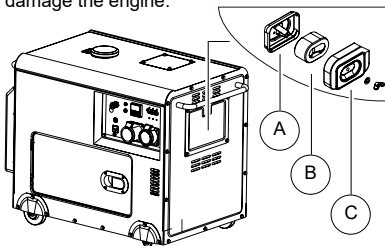

Figure 2-16. Air filter check
1. See **Figure 2-16 Air Filter check**, Open the cover of generators, you will see the air filter assembly.
2. Loosen the butterfly nut of air filter, take the air filter cover (C) off and take the filter element (B) out.
3. After replacing the air filter element, fix the air filter cover (C) and tighten the butterfly nut firmly.